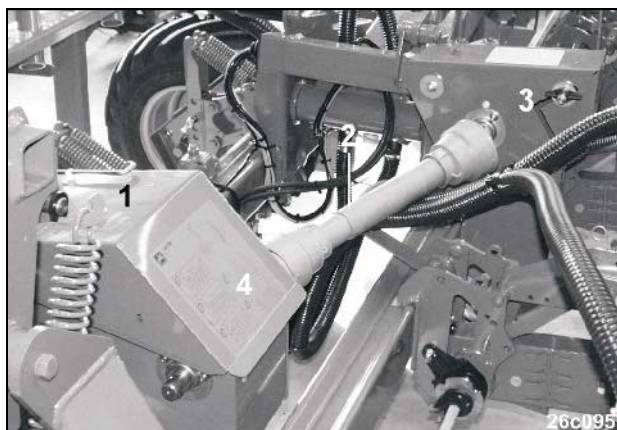

Fig. 106
- the chosen chain wheel pair of the setting gearbox (Fig. 106/1) and
- the chosen reduction gear "X" or "Y" or "Z" which can be set at the secondary transmission (Fig. 106/3).
Take the setting values for the reduction gear "X" and "Y" from the gearbox setting table (Fig. 106/4). Grain spacings in a 36 step find tuning from 3,1 to 53,8 cm can be set.